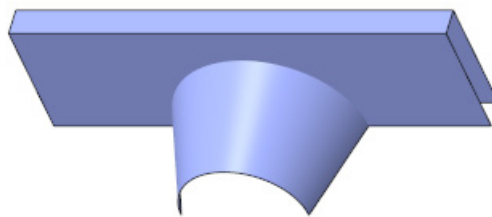

Figure 15-120 Blend surface
7. After drawing the second arc, choose the **OK** button to exit the Sketcher environment. Choose the **OK** button from dashboard to exit it. The model, similar to the one shown in Figure 15-120, is displayed in the drawing area.